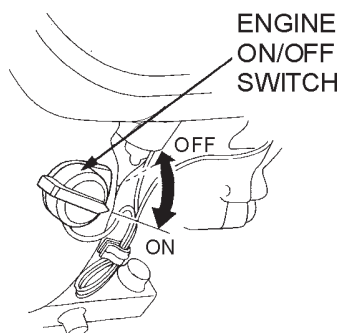

Figure 16. Engine ON/Off Switch (OFF Position)
2. Place the engine **ON/OFF** switch in the **OFF** position (Figure 16).
2. Place the **Engine ON/OFF switch** (Figure 16) in the **OFF** position.